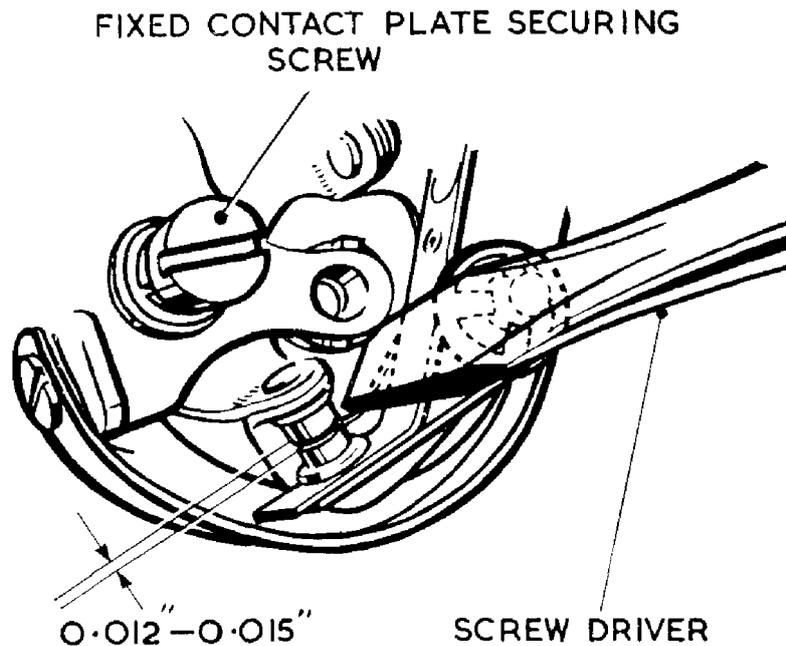

FIG. 102
The capacitor is now attached to the base plate by a screwed extension. Take away the base plate to remove capacitor. Fig. 102 shows the early type.
- (1) IGNITION—Magneto, High-tension wires, Sparking plugs and Cut-out switch.
- (2) CHARGING—Dynamo compensated voltage control unit and Battery.
- (3) LIGHTING AND ACCESSORIES—Lamps, Horn, Switches and Wiring.
**Adjustment every 3,000 miles.** Remove the contact breaker cover and turn the engine until the contact points are fully opened. Check the gap with a gauge having a thickness of .012" (spanner 015023 has a gauge of this thickness as an integral part of it). If the setting is correct the gauge should be a sliding fit, but if the gap varies appreciably from the gauge it should be adjusted by releasing the fixed contact plate securing screw and using a screwdriver as shown in Fig. 102.